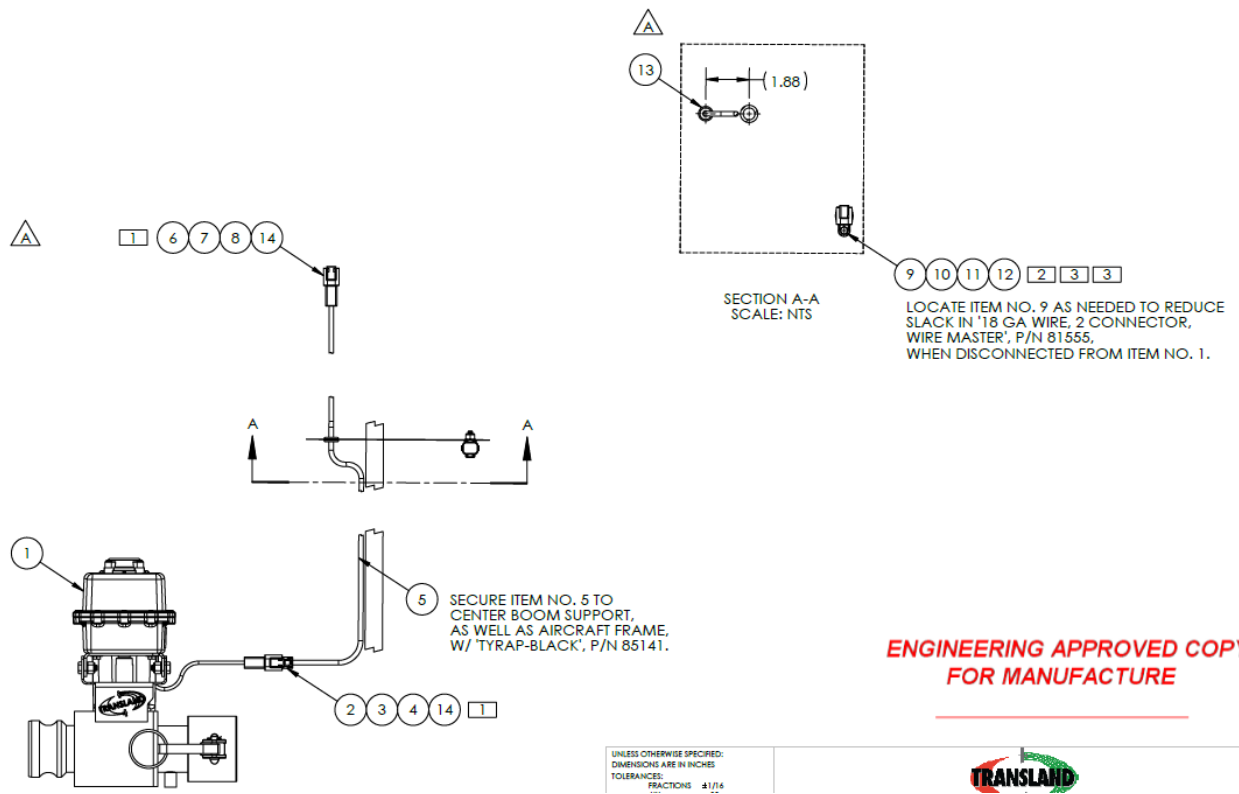

Figure 3-3: Wiring Illustration for Right-Hand Boom Shut-Off from Cockpit to Valve
4. Drill a 7/16" hole in the predetermined location, according to Figure 3-3.
6. Run item 5 wiring (PN 81555) to the right-hand boom shut-off valve from the installed control panel.
7. In the aircraft's interior, secure wiring to the aircraft frame using item 15.
8. Along the aircraft's exterior, secure wiring with item 15 onto the nearest center boom support, locating as necessary per Figure 3-3.
14. Once the wiring has been run, select locations for item 9 (per guidelines on Figure 3-3) to reduce slack in the wiring when disconnected from item 1.
16. Drill a hole with a size 9 drill bit into the belly skin and fasten the dust cap with items 10, 11, and 12.